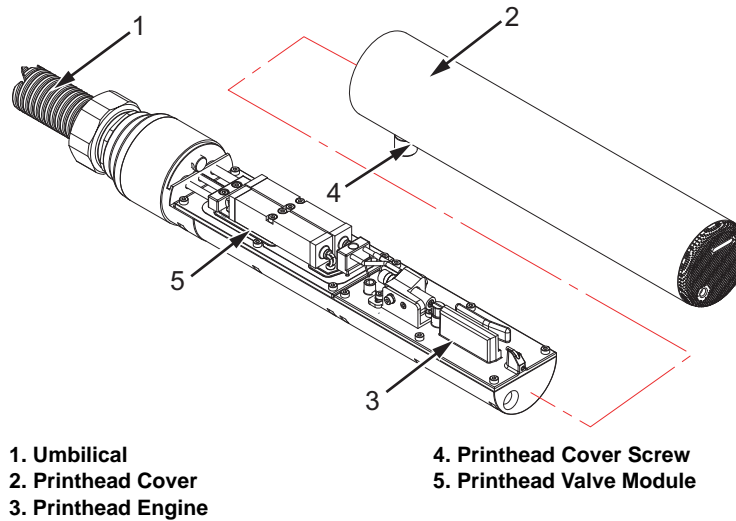

Figure 4-10: Printhead Cover Removed (Videojet 1520)
- 14 Remove the printhead cover (see Figure 4-10) and inspect for damages like: